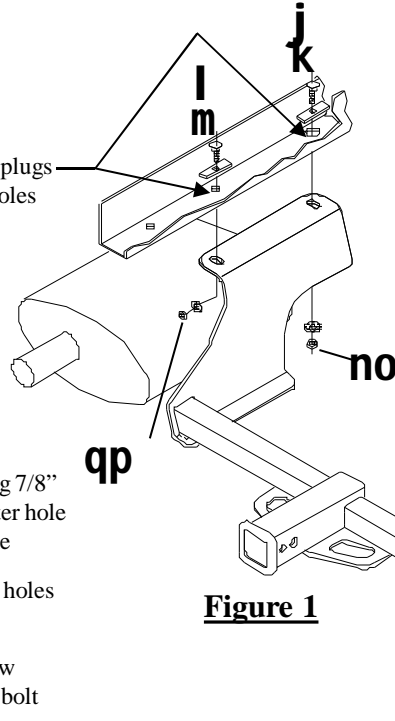

Figure 1
- Remove (2) plastic plugs from existing holes in each frame rail as shown above in Figure 1 and discard.